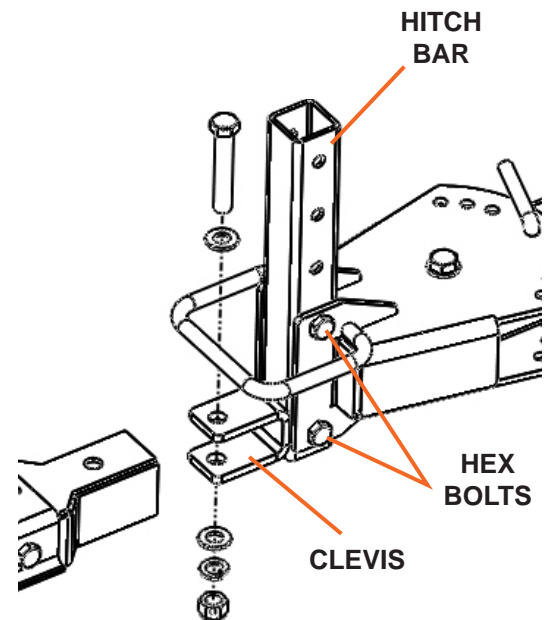

Figure 7
2. There are 4 different height positions on the hitch bar to help ensure the tongue remains level with the ground. Adjustment can also be made to correspond with the cutting height. Remove the two hex bolts, washers and nuts on the hitch bar and reposition to the desired height, then replace the hex bolts, washers and nuts, tighten securely (see Figure 7). The hitch bar and clevis can be inverted for tractors with higher hitches.